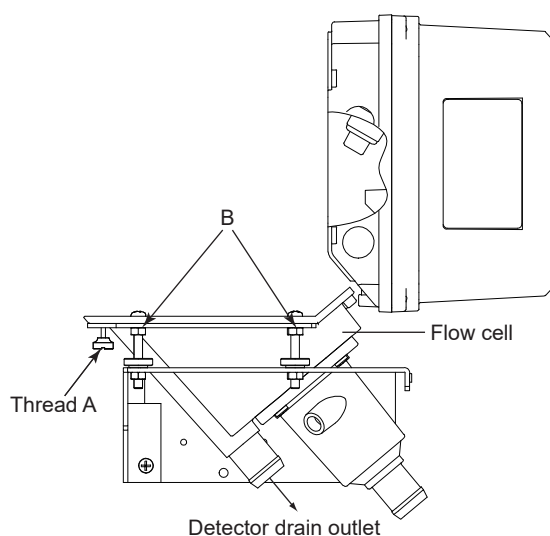
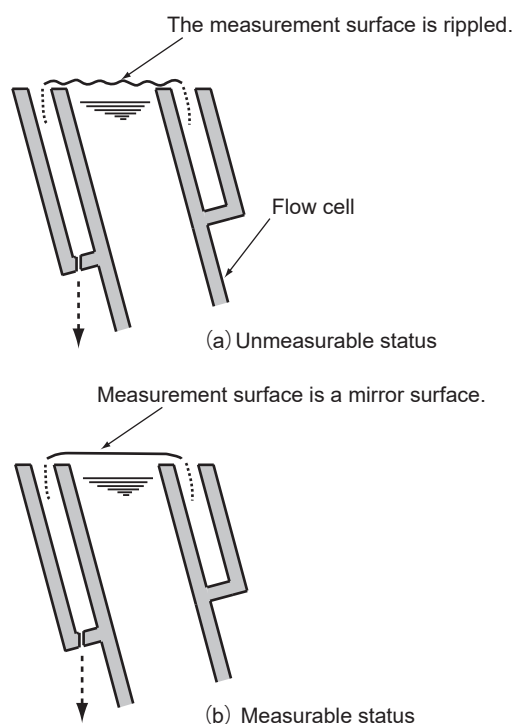
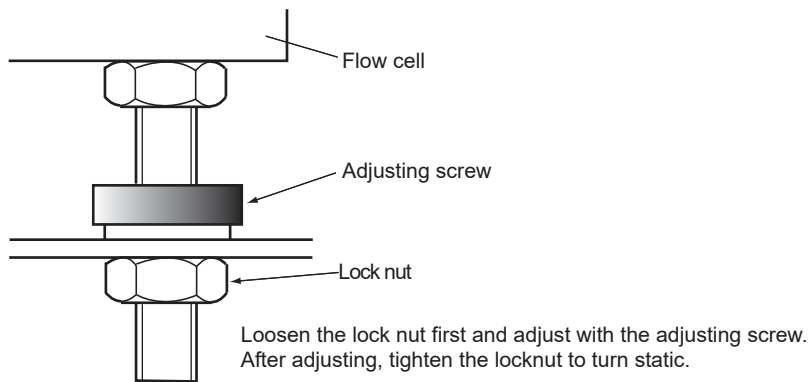

Figure 3.1 Detector
Figure 3.2 The liquid level of the detector
Figure 3.3 Enlarged view of B shown in Figure 3.1
- (1) Supply the specified tap water to the mounting port of tap water.
- (2) Close all valves except V2 and SV3 (for Sampling system: -A3).
- (3) Loosen the knob of the air vent at the top of the zero-turbidity filter and vent the air until tap water leaks out. After venting, tighten the knob firmly.
- (4) Loosen screw A (see Figure 3.1) at the bottom of the detector and open the top of the detector.
- (5) Slowly open valve V3 to adjust the level so that it overflows from the overflow port in the head tank, and check that the liquid level becomes the mirror surface as shown in (b) in Table 3.2.
- (1) Models with a sampling system usually do not need leveling because they are factory adjusted. ("3.12 Supplying Sample and Adjustment flow rate" is required). When leveling with or without a sampling system, place a level on the Flow cell with no water flowing, and adjust at B (4 locations) shown in Figure 3.1 so that the level shows horizontal at two points at right angles (see Figure 3.3). If there is no level gauge, it can be adjusted visually. In this case, adjust so that water overflows almost uniformly from the Flow cell (see Figure 3.2 (b)).
- (2) After leveling, measure the volume of water drained from the detector drain port (see Figure 3.1) using a graduated cylinder, etc., and confirm that the volume is within $1.5 \text{ L} \pm 0.1 \text{ L}$ per minute. If the flow rate is large, adjust it again in the direction of raising the Flow cell. If it is small, adjust it again in the direction of lowering the Flow cell using B (4 positions) shown in Figure 3.1.